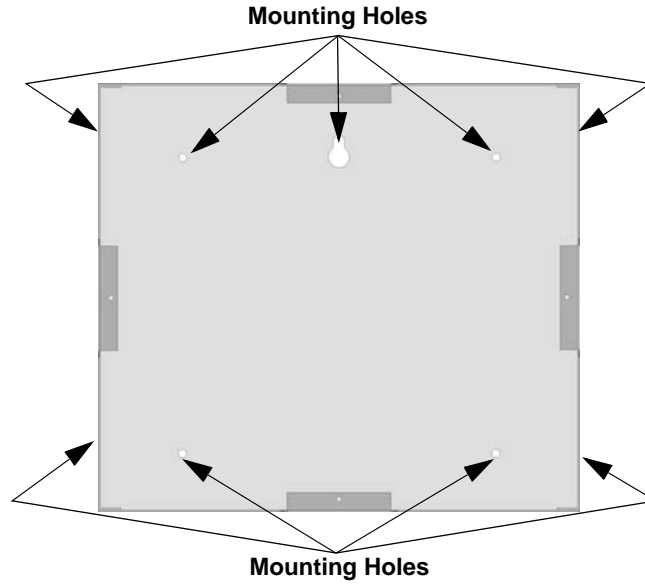

Figure 4-25 Backbox Mounting Holes
1. The backbox dimensions are 9-9/32" W x 8-3/8" H. The backbox can be mounted prior to the complete installation of the RA-100 using any of the mounting holes shown in Figure 4-25.